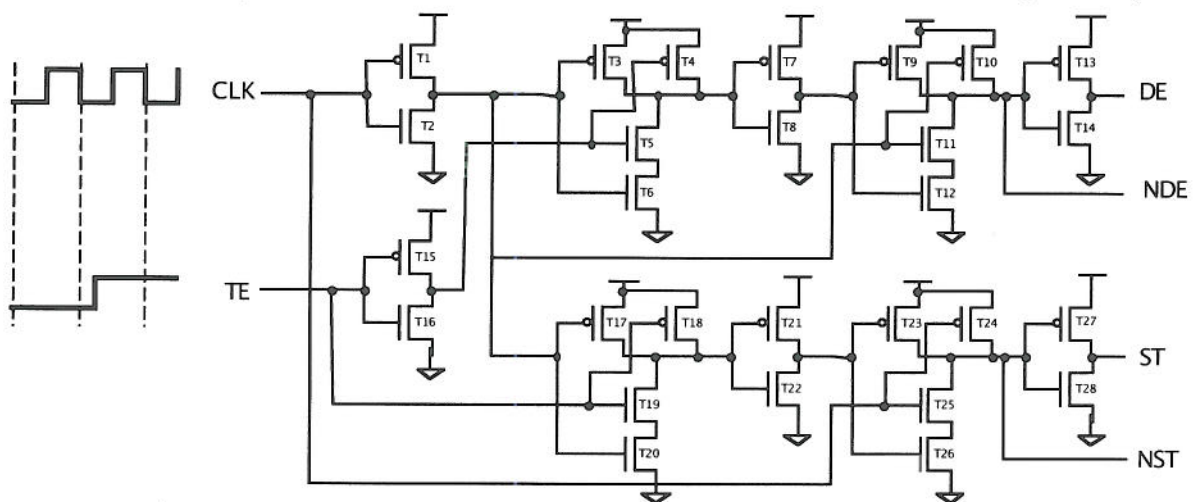

Figure 4.1
- c) Figure 4.1 shows the clock control circuit for a pulse-triggered scan-path register. Using the timing diagram shown for CLK and TE, explain the function of this circuit and draw the timing diagram for the expected output signals DE, NDE, ST and NST.